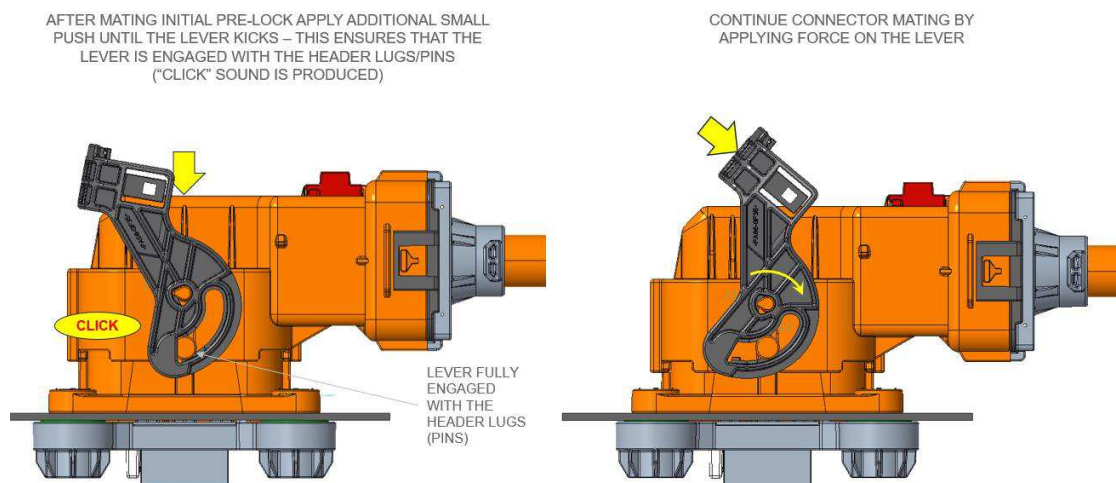

Figure 20a: Lever Actuation from Open to Close
4. Rotate the lever towards the connector body until it is completely in the closed position as shown in Figure 20a & b.